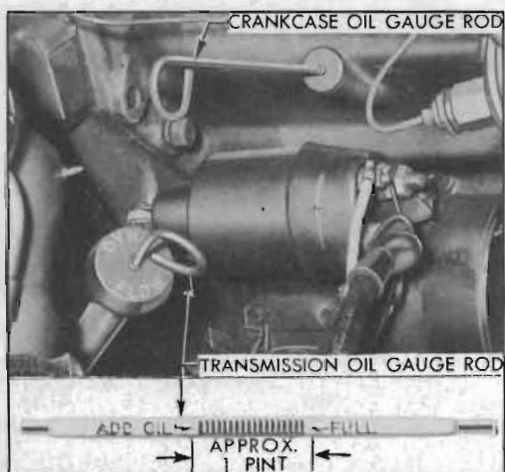

Figure 1-3—Dynaflo Oil Gauge Rod
5. *Dynaflo Transmission.* Check transmission oil level, *with transmission oil warm, transmission in Parking, and engine idling.* Remove gauge rod located under right side of hood (fig. 1-3), wipe dry with clean cloth then reinstall to full depth. Remove rod and note oil level.